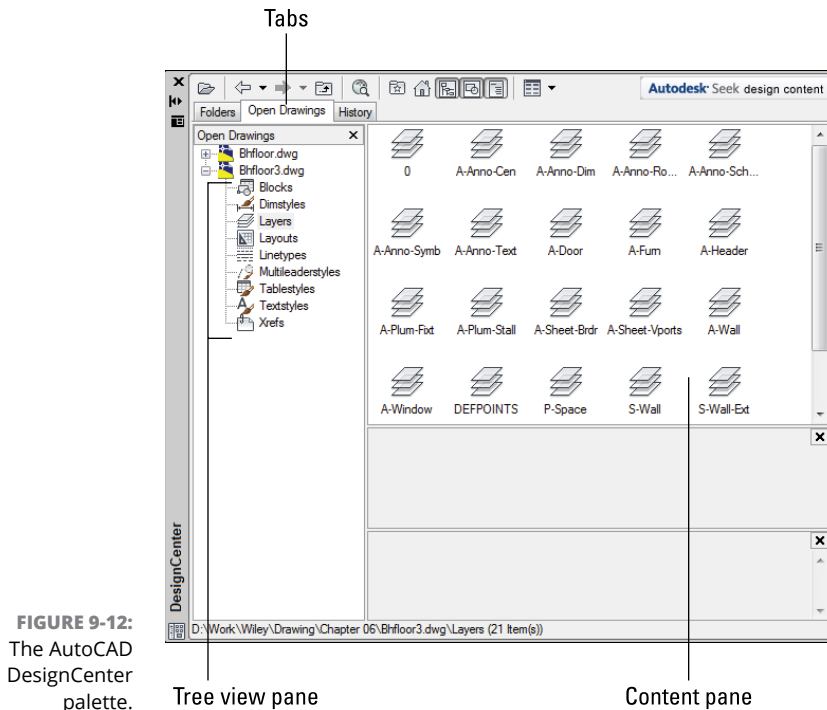

FIGURE 9-12:
The DesignCenter palette, shown in Figure 9-12, consists of a toolbar at the top, a set of three tabs below that, a tree view pane on the left, and a content pane on the right. The tree view pane displays a Windows Explorer–like navigation panel, showing drawing files and the symbol tables contained in each drawing. The content pane usually displays the contents of the selected drawing or symbol table.
- » **Open Drawings:** Shows the drawings that are open in AutoCAD. Use this tab (it's current in Figure 9-12) to copy named objects between open drawings.